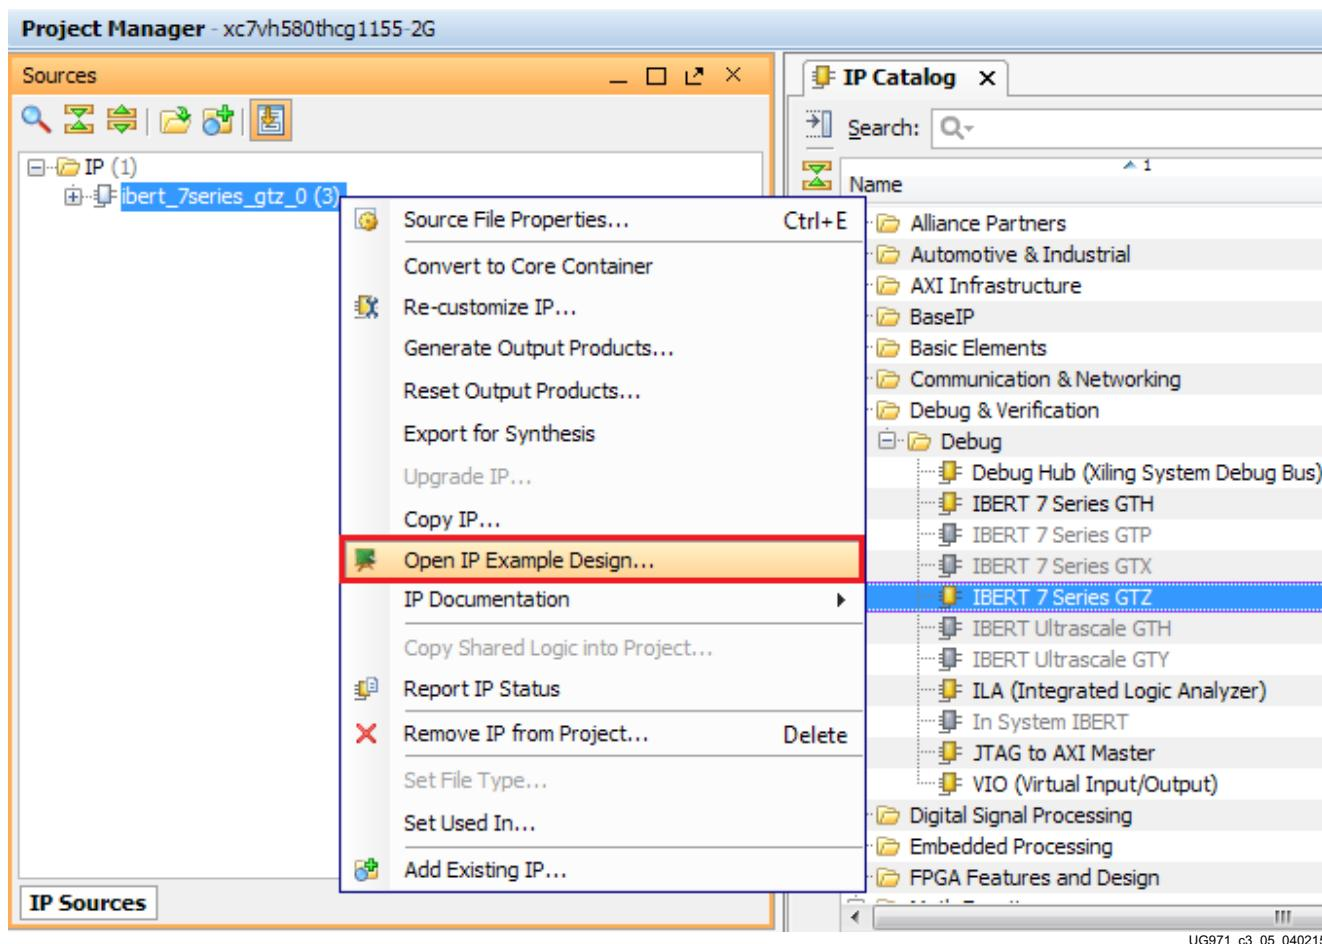

Figure 3-5: Open IP Example Design
4. Back in the Manage IP window, from the Sources window, right-click the **IBERT IP** and select **Open IP Example Design** (Figure 3-5). Specify a location to save the design, press **OK**, and the design opens in a new Vivado window.